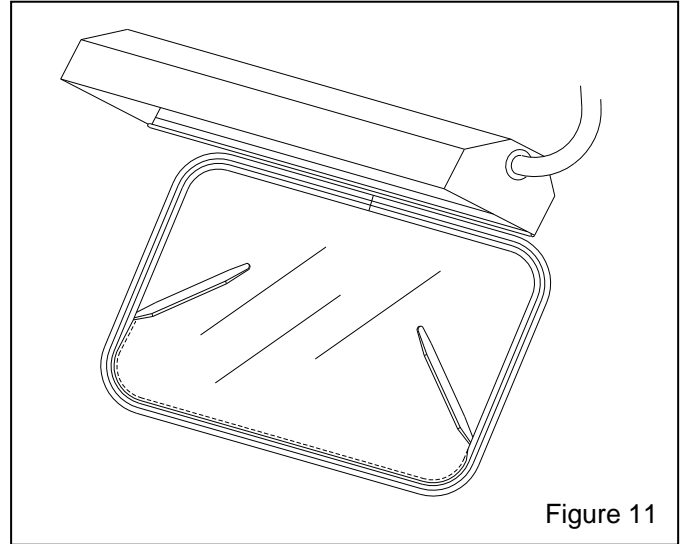

Figure 11
**6.3.7** Use a nylon window stick, Stock No. 22933, as shown in Figure 11, and work the window channel lip over the glass. When this is done, the window should be entirely within the molding's window channel.